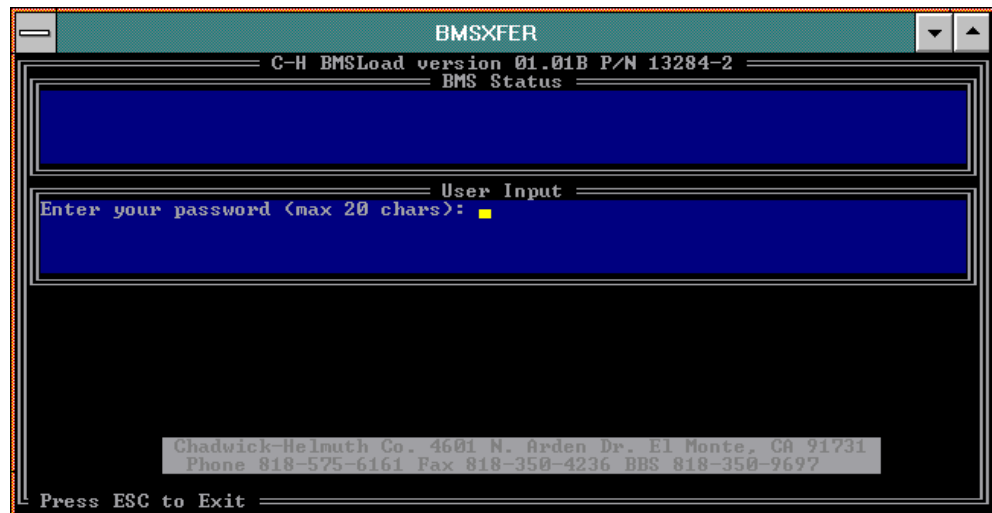

Figure 67. Upload Status Screen (User Password)
7. You will then be prompted to enter your password. Enter your password and press **ENTER** (refer to Figure 67).